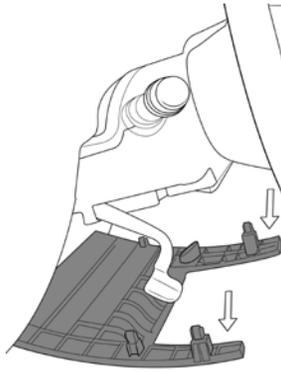

Figure 47
- b. Remove the knee panel located under the steering column (fig 47).